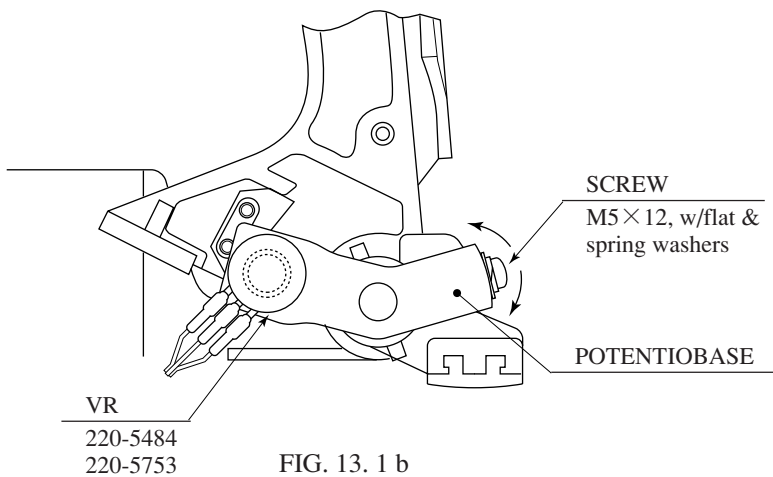

FIG. 13. 1 b
- ① Take out the 2 truss screws and remove the Front Cover from the Accel. & Brake Unit (FIG. 13. 1 a).
- ② Loosen the screw which secure the Potentiobase, and adjust the Volume value by moving the Base. (FIG. 13. 1 b)
- ③ Secure the Potentiobase.
- ④ Perform volume setting in the volume setting mode. (See 10-3G.)